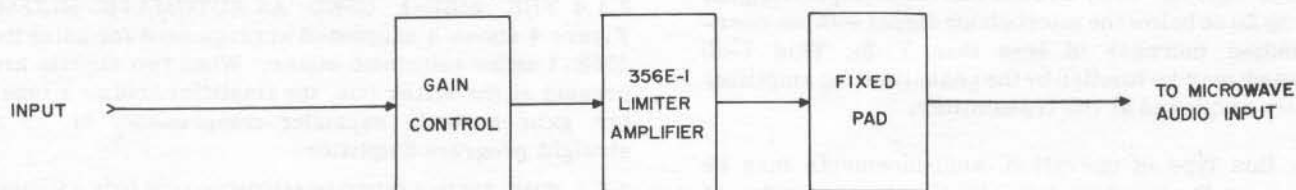

Figure 5. Collins Type 356E-1 Limiter Amplifier as Automatic Level Control in Microwave Relay Systems, Suggested Arrangement
2.1.5 THE 356E-1 USED IN MICROWAVE RELAY SYSTEM. Figure 5 shows a suggested arrangement for using the 356E-1 to minimize audio level variations in a microwave relay system.